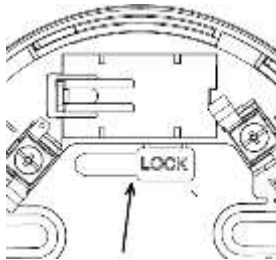

Fig.2
- Pre remove the key from the base (Figure 2).